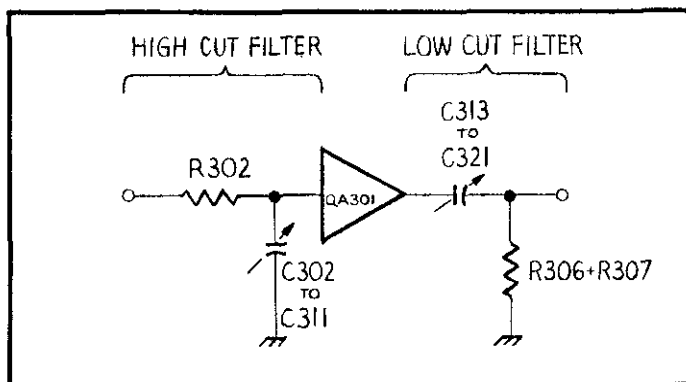

FIGURE 25. High-Low Cut Filter.
a. HIGH CUT Filter. The high-cut filter circuit is adjustable by means of switch S301A. This switch has 10 positions designated 10 Hz to 300 kHz. Each position represents the "3 dB Down" point on the overall frequency response characteristic. The filter is essentially a low-pass filter as shown in Figure 25. The response of the filter is approximately given by the equation:
b. LOW CUT Filter. The low-cut filter circuit is adjustable by means of switch S301B. This switch has nine positions designated 0.1 Hz to 10 kHz. Each position represents the "3 dB Down" point on the overall frequency response characteristic. The filter is essentially a high-pass filter as shown in Figure 25. The response of the filter is approximately given by the equation: